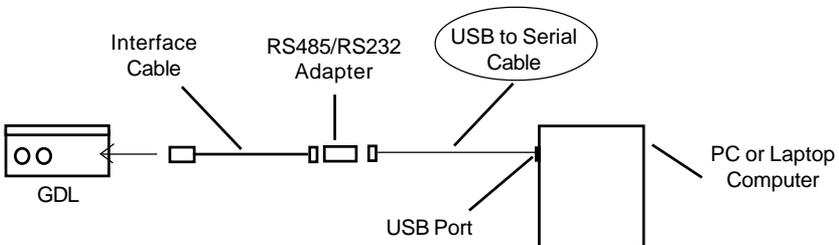

Figure 4: Connection using a USB to Serial Cable
The standard communication cable/RS485-232 adapter that comes with the GDL plugs into a 9-pin serial port on the PC or laptop. Many new computers, especially laptops, do not come with 9-pin serial ports. If you have one of these computers, or if all of your serial ports are in use, you can connect to a GDL using a USB to Serial cable, as shown in figure 4.
- Connect to the GDL (figure 4 above).